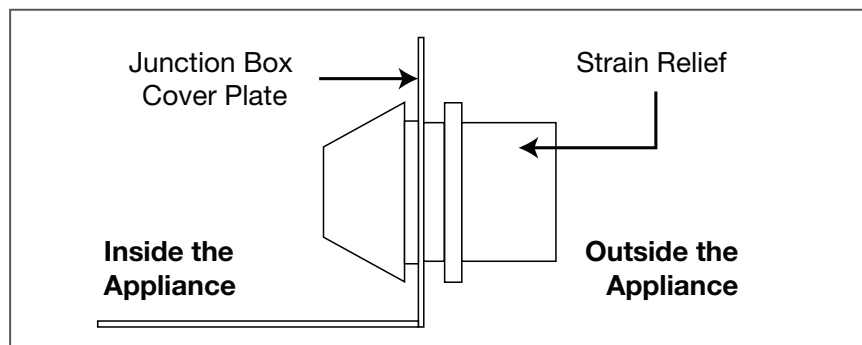

Fig. 22
- Insert the wires from your home through the junction box cover plate with the strain relief (supplied) and locate the wires to the specified terminal block location based on desired voltage selection (**Fig. 22**).